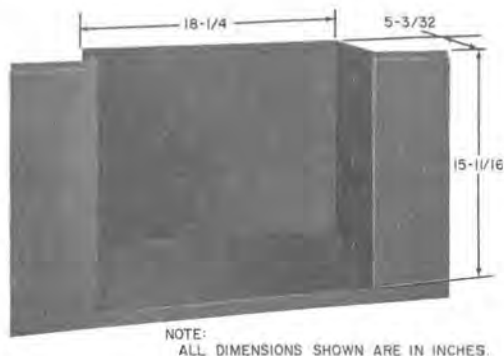

Fig. 4—KS-20194, List 10 Directory Dress Panel
- (c) KS-20194, List 10 directory dress panel (Fig. 4)